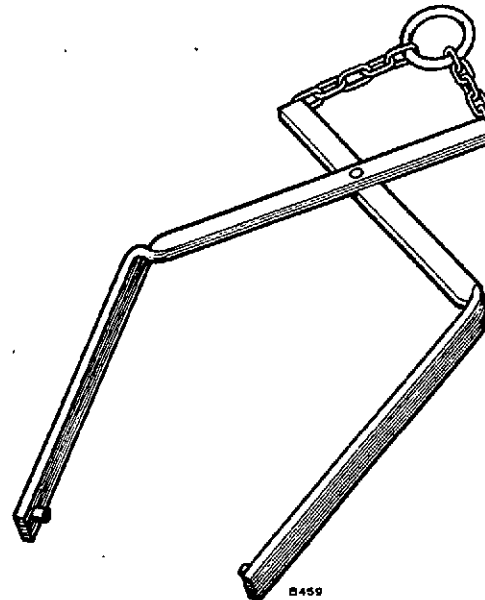

**FIGURE 56. FREEING END BELL FROM STATOR**
4. Remove end bell by tapping upward around joint and separating it from stator assembly, Figure 56.